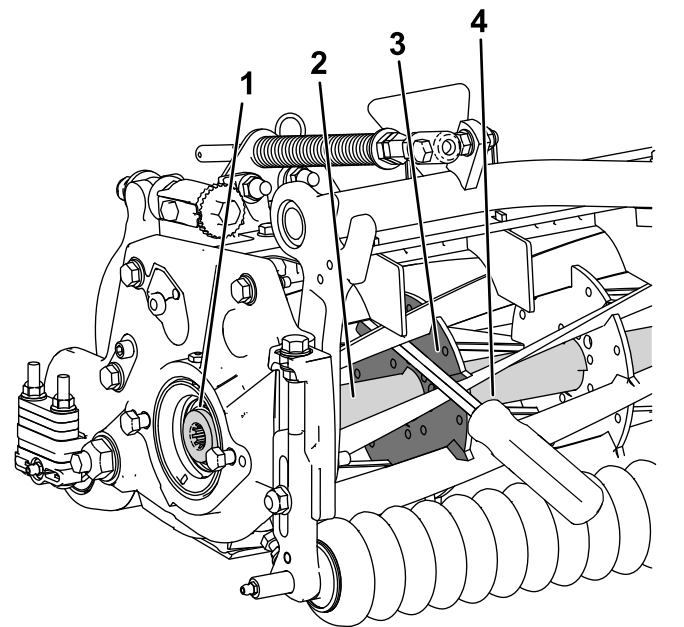

Figure 31
1. Insert a long-handled pry bar (recommended 3/8 x 12 inches with a screwdriver handle) through the front of the cutting reel, closest to the side of the cutting unit that you will be torquing (Figure 31).
2. Place the pry bar against the weld side of the internal cutting reel reinforcement (Figure 31).